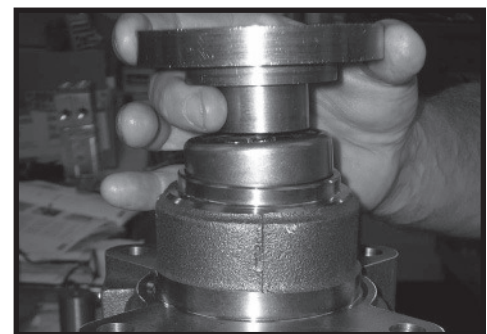

Figure 34
Large Frame Series TF, TL, TG & TJ Torqmotor™ housings require the use of the bearing mandrel shown in figure 2 to press bearing (19) into the housing to a required depth of .290/.310 inches (7.37/7.87 mm) from the outside end of the bearing counterbore. SEE FIGURE 34.